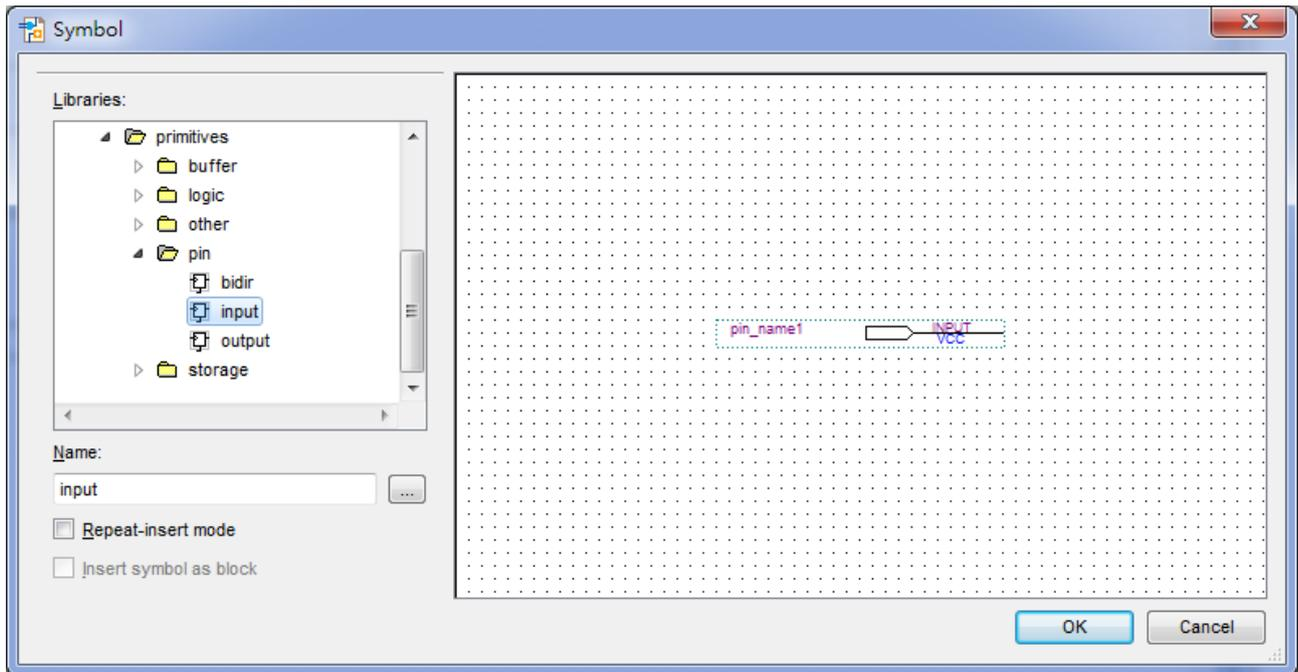

Figure 3-17 Input pin symbol
- b. Under Libraries, select quartus/libraries > primitives > pin >input. See Figure 3-17